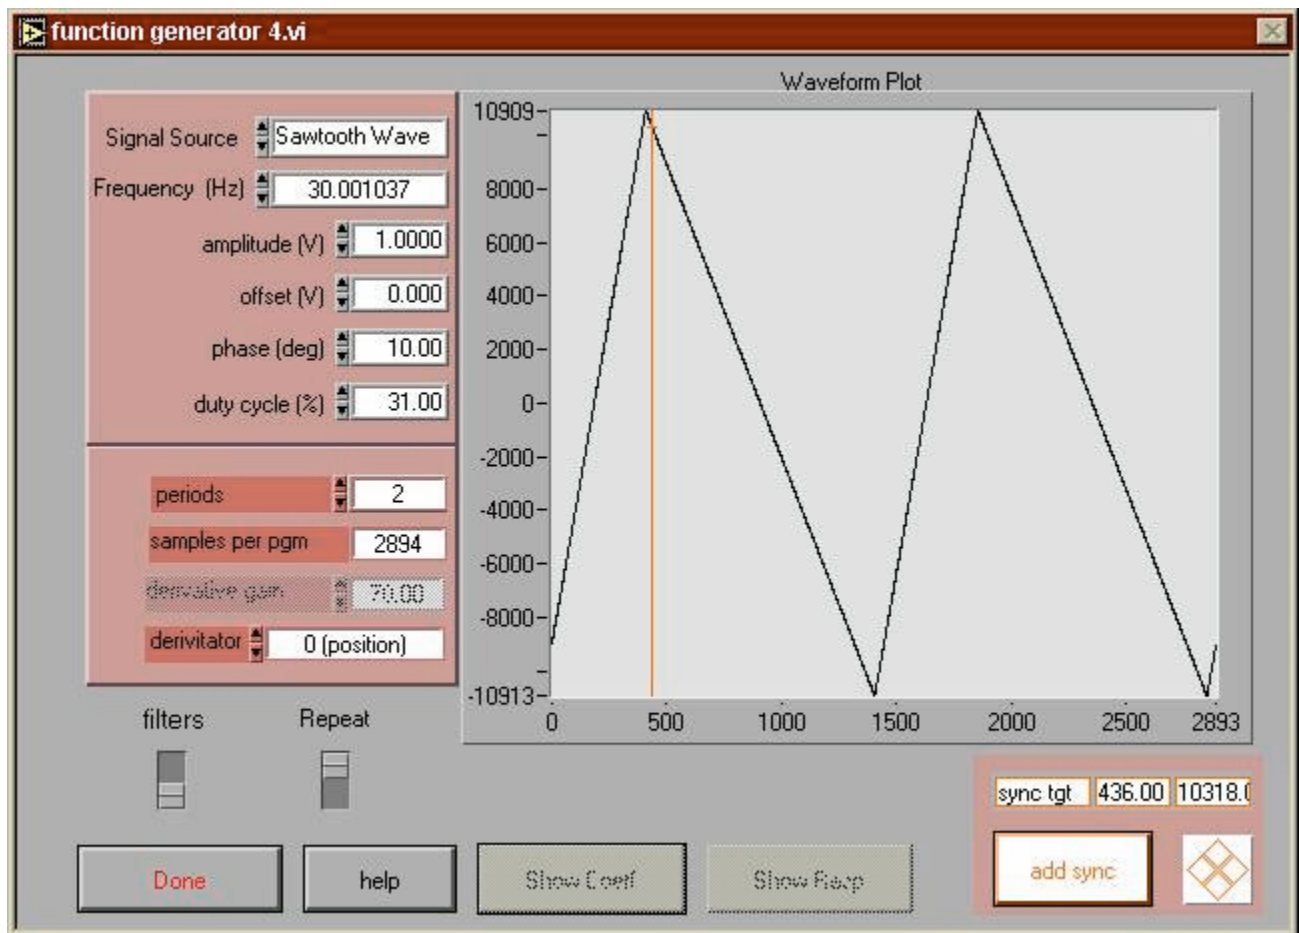

Figure 27 Load wave window
1. **Raster Draw / Load Wave:** This brings up the window shown in Figure 27. **Signal Source** provides the means to select the basic wave-shape. **Frequency** and **Amplitude** (in peak volts, of the commanded wave-form) can be entered in the appropriate places. **Offset** will adjust a DC offset term which is added to the wave-form, and the **phase** variable sets the location the 'repeat' statement. **Ticks per sample** controls how finely the waveform is broken up into straight-line segments. The Scan Controller codec operates at a constant update rate of 43.411 kHz (it outputs command voltages to the galvo at this constant rate). One way of generating wave-forms is to store one point for each point output to the galvo. For many applications this is unnecessary – the program can be made of many fewer points, and the Scan Controller will generate straight lines between them using the **slewy** or **slew** commands. **The Ticks per sample** control controls this granularity. When it is set to 1 a command is generated for each point to the galvo – if it is set to 10 then a command is generated for every ten points, and straight lines are drawn between them. For 'Ticks per Sample' of one, this control re-names itself **Periods** and allows multiple periods of a waveform to be generated. This is useful for generating higher frequency waveforms. The waveform plot shows the effects of varying these controls, in real-time. Finally, the **derivitator** control allows the display and generation of the time derivative of the wave-form. This can be useful where velocity, rather than position is the variable of interest. When the desired wave-form is present in the plot, pressing the **Done** button brings up the Program Destination Window, shown in Figure 17. This allows you to direct the program to the Scan Controller or store to a file on the host. The title is any single character, which will be converted to a number by the program (the program describing this sine wave is called 'a').